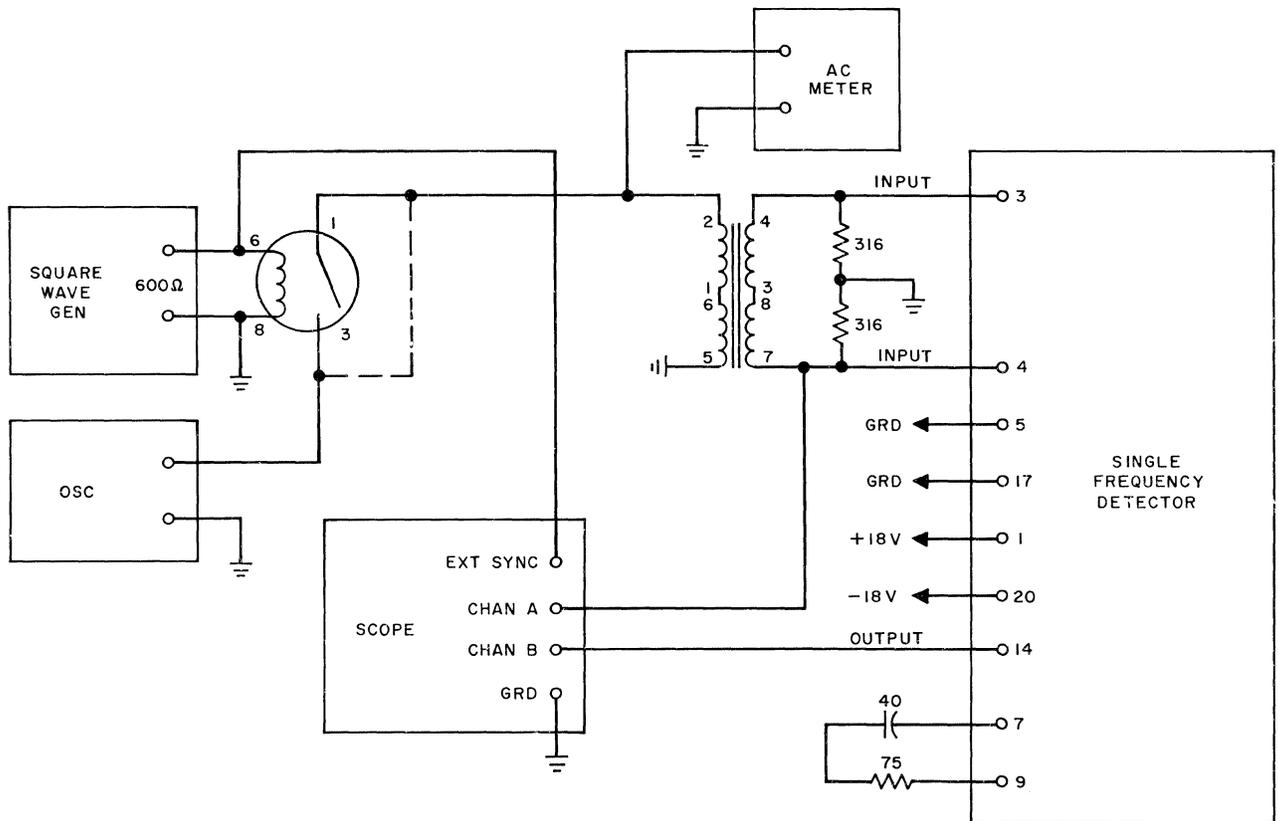

Fig. 12 — Single Frequency Detector Test
- (1) Connect the card as in the suggested test circuit shown in Fig. 12. Connect +18.0 ( $\pm 0.5$ ) volts dc to terminal 1, -18.0 ( $\pm 0.5$ ) volts dc to terminal 20, and ground to terminals 5 and 17. For this section of the test, place a short between pins 1 and 3 of the mercury relay.
- (2) Set the frequency of the sin-wave generator to 600 cps ( $\pm 5$  percent).
- (3) Set the amplitude of the input sine wave at the primary of the transformer to 1.2 ( $\pm 0.1$ ) volts rms.
- (4) The voltage between terminal 14 and ground shall be +6.5 ( $\pm 0.8$ ) volts dc.
- (5) Increase the amplitude of the input sine wave to 2.0 ( $\pm 0.1$ ) volts rms.
- (6) The voltage between terminal 14 and ground shall be less than or equal to +0.3 volt dc.
- (7) Reduce the amplitude of the input sine wave until the output on terminal 14 switches to +6.5 ( $\pm 0.8$ ) volts dc. The amplitude of the input sine wave at the point of switching shall be 1.6 ( $\pm 0.2$ ) volts rms.
- (1) Connect the card in the suggested test circuit shown in Fig. 12.
- (2) Set the frequency of the sine-wave generator to 600 cps ( $\pm 5$  percent).
- (3) Temporarily short pin 1 to pin 3 of the mercury relay. Set the amplitude of the input sine wave at the primary of the transformer to 3.5 ( $\pm 0.05$ ) volts rms. Remove the short between pins 1 and 3 of the relay.